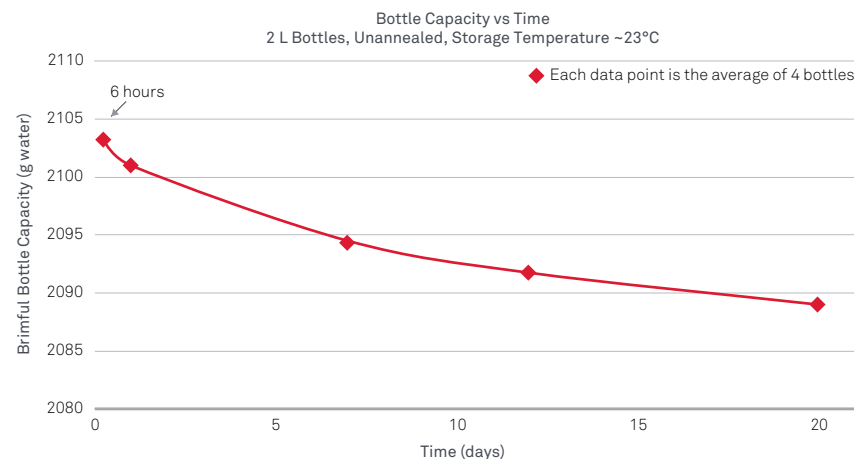

Figure 1. Capacity of unannealed 2 L bottles measured over a 12-day period and stored at 23°C
Blow moulding process conditions directly influence bottle capacity. Figure 1 shows the extent of the capacity change for unannealed 2 L bottles over a 20-day period. There was about 10 g reduction in capacity between day 1 and day 12. The first data point at 2103 g was measured 6 hours after blow moulding the bottle. The capacity measured immediately after manufacture would be significantly higher than 2103 g. Typically, the capacity reduction for unannealed 3 L bottles between day 1 and day 12 is around 15 g.
The results of 'brimful bottle capacity' versus 'days after manufacture' are plotted on a graph, similar to the one shown in Figure 1.
- **Bottle storage:** the ambient temperature can have a significant effect on bottle capacity during storage. The rate of shrinkage is greater at higher ambient temperatures, so in an uncontrolled environment, shrinkage will be much higher in summer than in winter. Bottles stored in a warehouse close to a hot roof are likely to shrink more than those stored closer to ground level. Empty bottles that are transported by truck during the summer period are likely to experience additional shrinkage. The longer the storage time, the more the bottles will shrink, although the rate of shrinkage reduces after 10-12 days, as indicated in Figure 1.